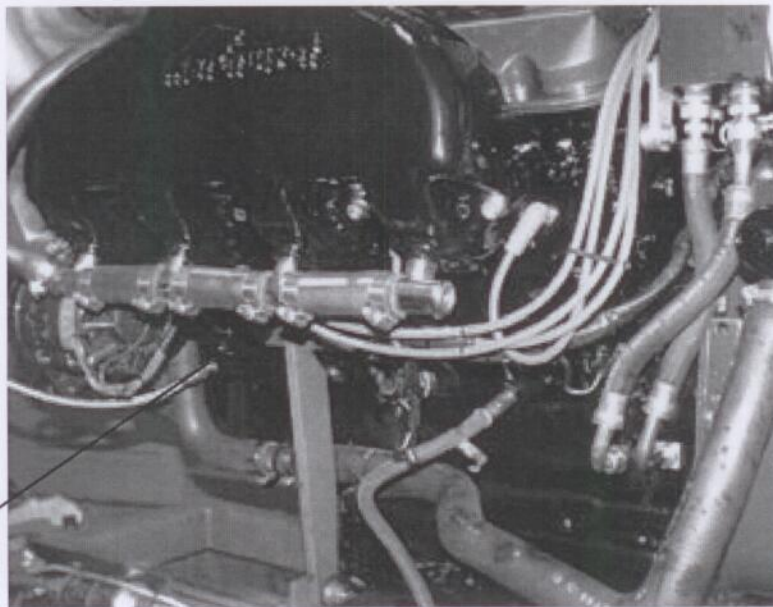

FIGURE C1
1. Locate & remove the 1/4" MPT plug located at the front of the oil galley running along the port side of the motor (directly above the pan rail, near the front corner of the engine, refer to figure C1).